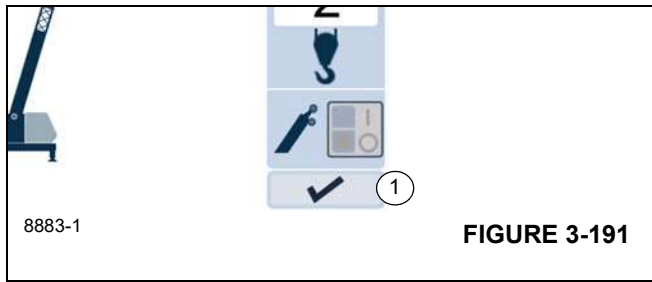

FIGURE 3-191
Select symbol (1), (Figure 3-191) and after configuring all the necessary information on the rigging mode screen select the confirm input button.